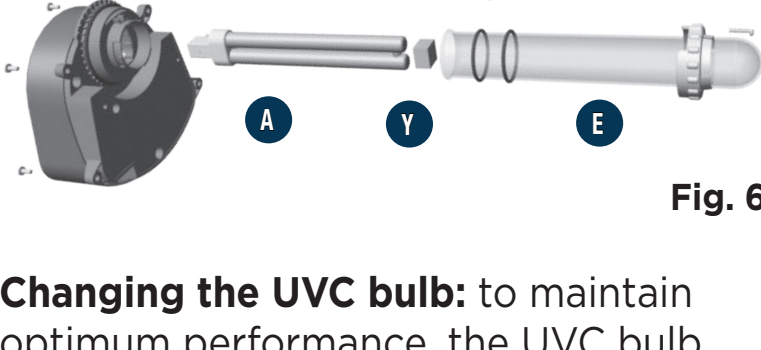

Fig. 6
4. Remove the UVC head (A) (Fig. 6) from the filter by unscrewing the 4 screws (J) that fasten the UVC head to the filter lid (G). UVC Head is equipped with anti-loss screws. You do not need to completely remove the screws. Just unscrew them until the UVC Head is disengaged.
5. At this stage it is possible to clean the quartz sleeve (C), if required. To clean the quartz sleeve, use a damp soft cloth to wipe away limescale and debris. In case of stubborn dirt, some vinegar may be used. Do not use detergents or other chemical cleaners. If it is not necessary to change the UVC bulb, go straight to point #10.
6. To access the UVC bulb (B), remove the Quartz Sleeve (C) by first unscrewing, about 3 turns, the security screw (K) of the Retaining Flange (E) that fasten it to the UVC head. Afterwards turn the Retaining Flange approx 30 deg counterclockwise until the screw is aligned with the arrow present in the UVC head and pull to disengage it from its place. Important: the Retaining Flange is equipped with one anti-loss safety screw. There is no need to remove the screw completely. Just unscrew the screw until the Retaining Flange is free to be turned and disengaged from its position.
8. Once the Quartz Sleeve is removed, pull out the UVC bulb (B) away from the bulb holder and replace it with a new one. **WARNING - DO NOT ATTEMPT TO VIEW THE BULB WHEN LIT!** Direct exposure to ultraviolet light can damage eyes and skin. Do not test the UVC bulb unless the filter is fully assembled and closed. **IMPORTANT** - Use original Fluval Pond spare parts only
9. Place the Quartz Sleeve (C) and the two O-rings (D) back in their original position. It is recommended to lubricate the O-Rings with an inert lubricant.